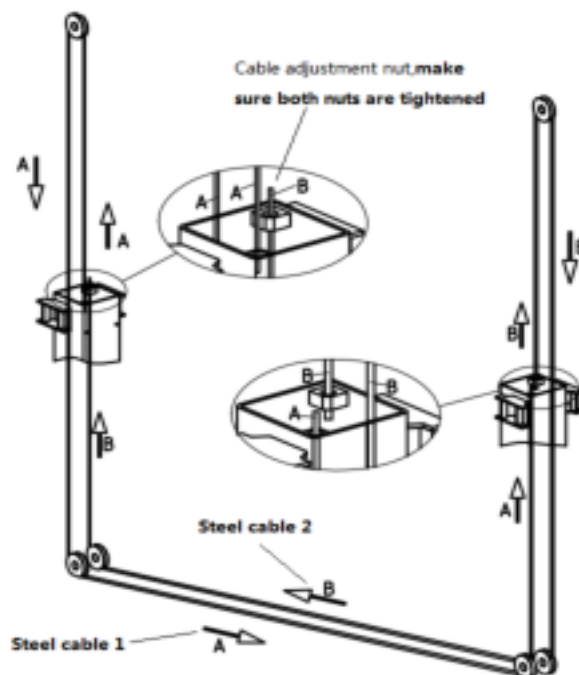

Fig. 5
4. Fit the cables as shown in the diagram. (Fig.5)